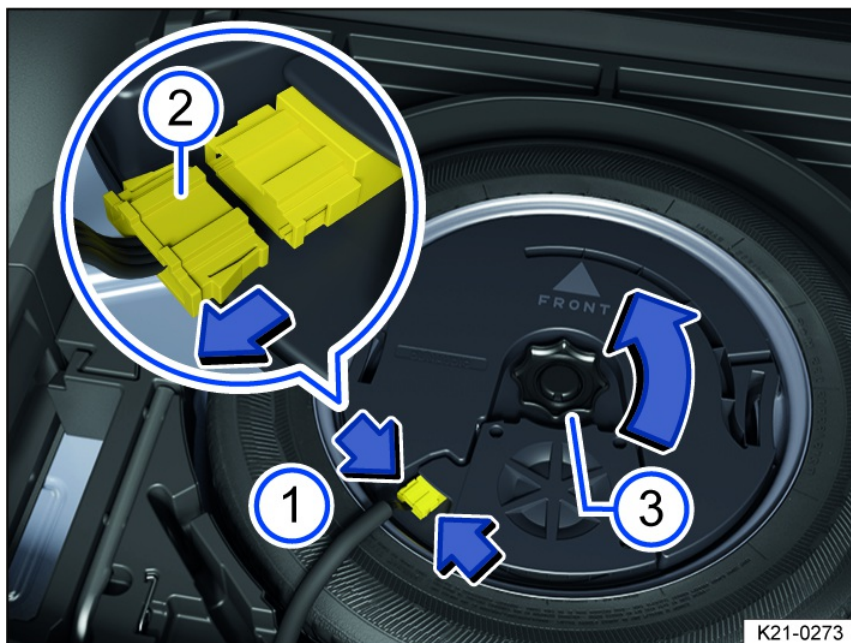

Fig. 170 In the luggage compartment: removing the subwoofer (version 1).
2. To release the connector, press the *fig. 170* lugs together (arrows ①).
3. Remove the connector *fig. 170* in the direction of the arrow and set the removed wire to the side.
4. Unscrew the handwheel *fig. 170* in the direction of the arrow.
2. Push the connector *fig. 170* in until you hear it click into place.
3. Turn the handwheel *fig. 170* on the threaded pin in the opposite direction to the arrow until the subwoofer is securely fastened.